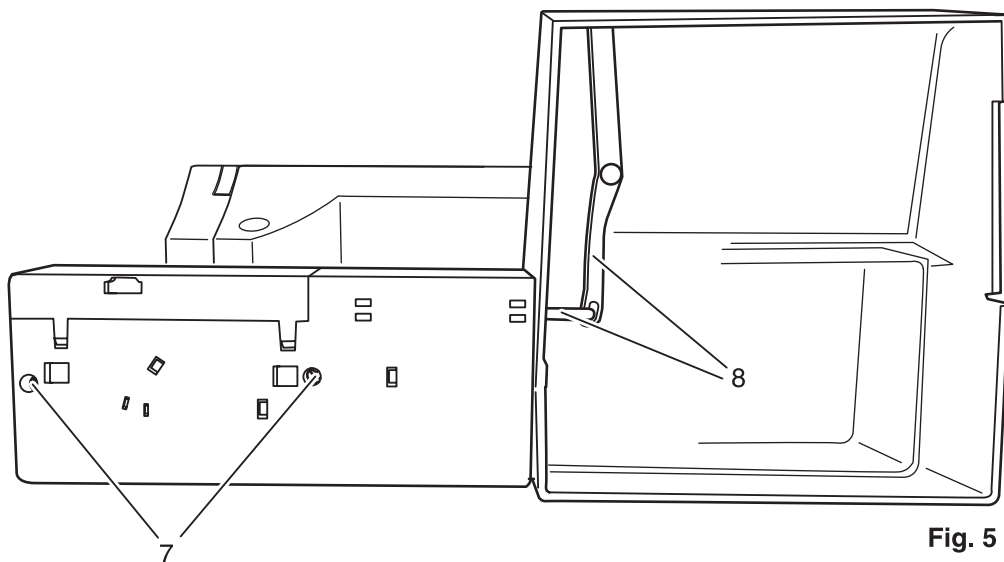

Fig. 5
- Unscrew and remove both fastening screws 7 on the free-arm cover (fig. 5).
- Re-position crank pin 24 with pull rod 26 sideways until the complete top and bottom feed moves easily (fig. 5).